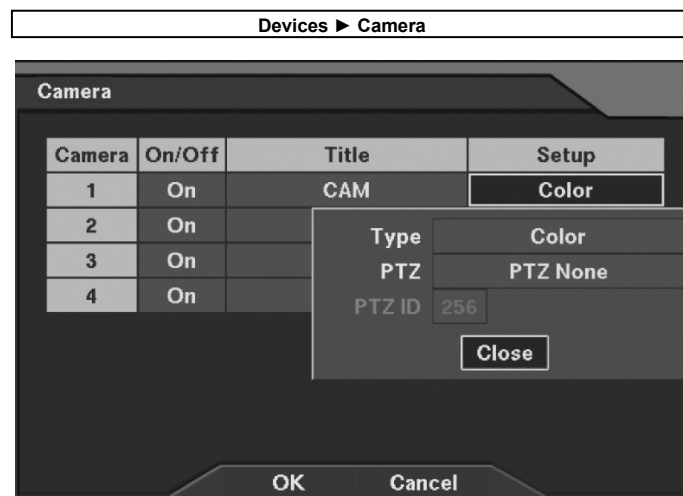

Figure 10 Camera Setup Dialog
- **Camera:** Set up camera information (Refer to Figure 10 Camera Setup Dialog.).
(Refer to Figure 10 Camera Setup Dialog.)